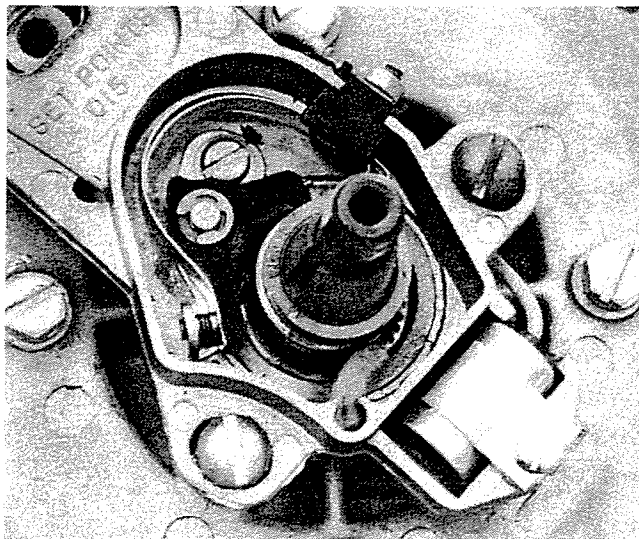

Figure 25. Removing Breaker Points.
3. Remove screw holding breaker point to stator plate. Figure 25.